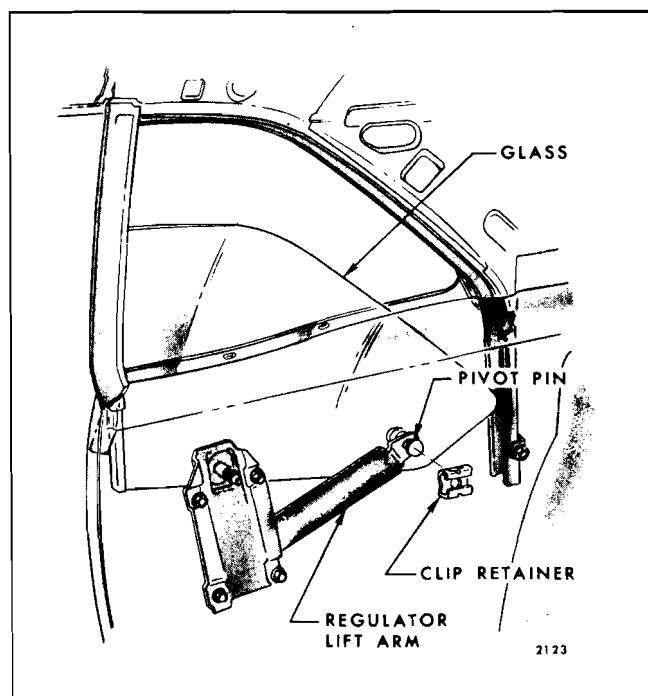

Fig. 7-5—Rear Quarter Window Attachment - Typical "A" Closed Styles
2. Operate quarter window to the position illustrated in Figure 7-5.
NOTE: Figures 7-5, 7-6 and 7-7 are typical of rear quarters with the inner panels removed. These figures identify the component parts of the rear quarter hardware (by style), their relationship and various attaching points.